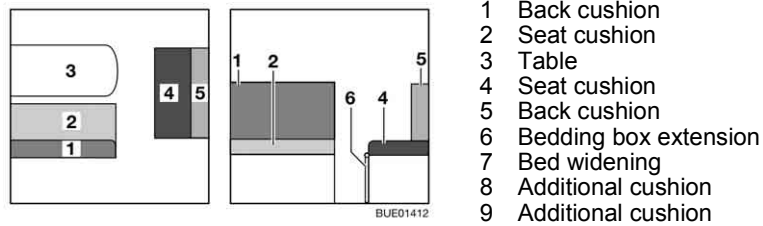
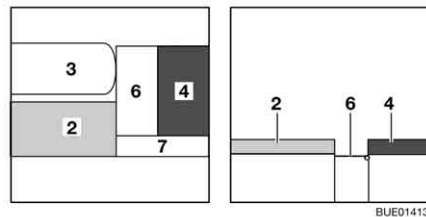
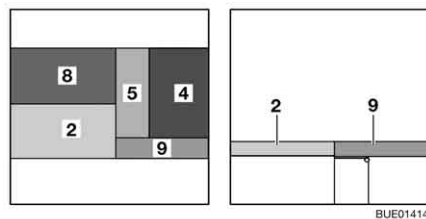

Fig. 103 Prior to conversion
Fig. 104 During conversion
Fig. 105 After conversion
- Convert the table (Fig. 103,3) to a bed foundation (see section 6.11).
- Unfold the bedding box extension (Fig. 103,6).
- Attach the bed widening (Fig. 104,7) to the bedding box and to the bedding box extension.
- Remove the back cushion (Fig. 103,1) and lay it aside.
- Remove the back cushion (Fig. 103,5) and place it on the bedding box extension (Fig. 104,6).
- Place the additional cushion (Fig. 105,8) on the table.
- Place the additional cushion (Fig. 105,9) on the bed widening (Fig. 104,7).